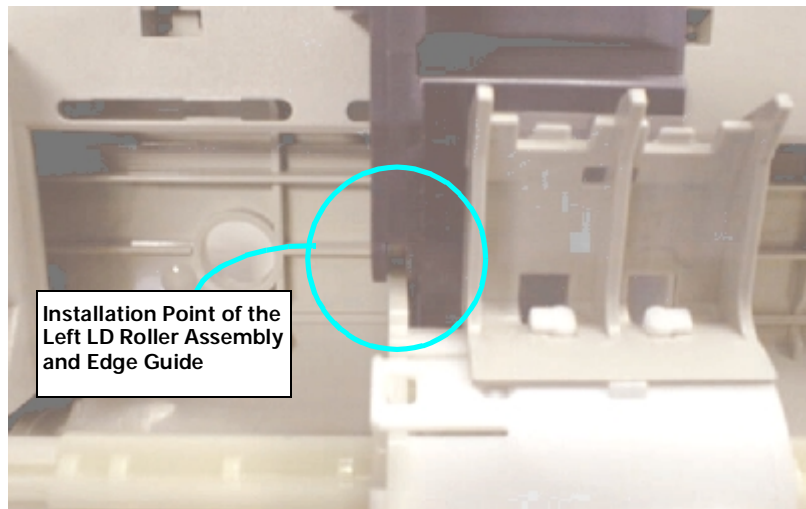

Figure 4-33. Left LD Roller Assembly Installation Point
- Make sure the Left Frame of the left LD Roller Assembly is set to the cutoff of the Paper Edge Guide. (Refer to Figure 4-33.)